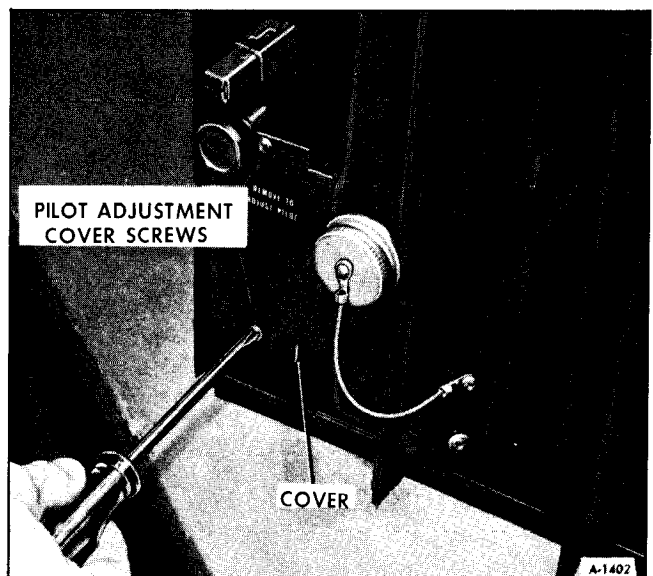

Figure 36-Removing Pilot Adjustment Cover
2. Remove pilot adjustment cover as shown in Figure 36.
4. Install pilot adjustment cover (figure 36).